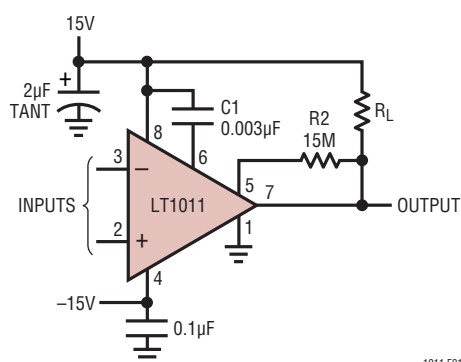

Figure 1. Comparator with Hysteresis
5. Use hysteresis. This consists of shifting the input offset voltage of the comparator when the output changes state. Hysteresis forces the comparator to move quickly through its linear region, eliminating oscillations by "overdriving" the comparator under all input conditions. Hysteresis may be either AC or DC. AC techniques do not shift the apparent offset voltage of the comparator, but require a *minimum* input signal slew rate to be effective. DC hysteresis works for all input slew rates, but creates a shift in offset voltage dependent on the previous condition of the input signal. The circuit shown in Figure 1 is an excellent compromise between AC and DC hysteresis.